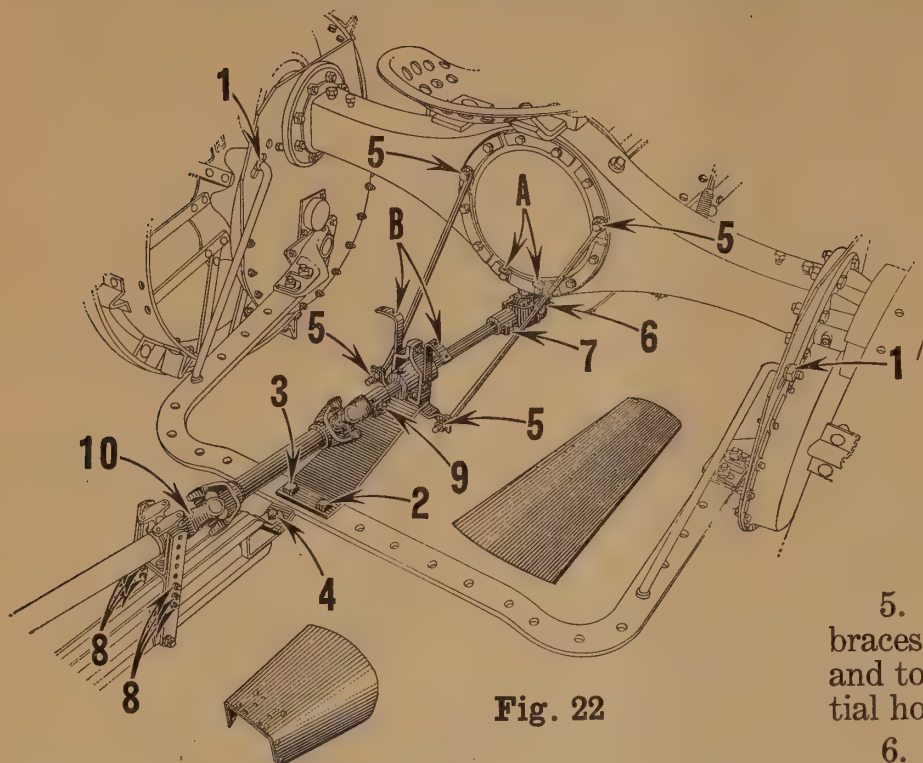
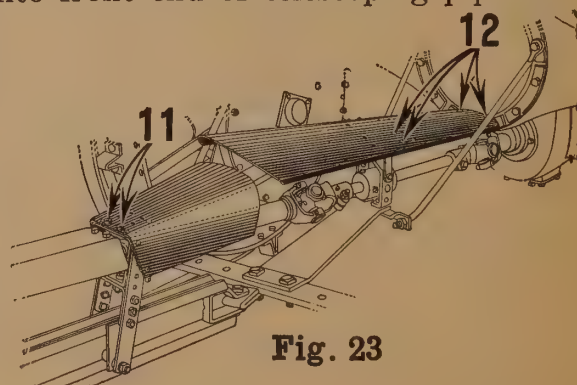
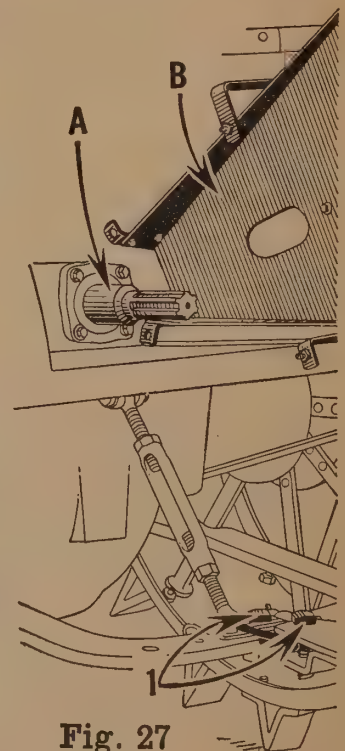

Fig. 22
Fig. 23
Fig. 27
5. Old style shields are supplied for "AR" Model "117" and "AO" Model "121" tractors. Bolt shield to power shaft front support as shown at "11", Fig. 23.
4. Old style shields only are supplied for this tractor. Bolt shield to power shaft front support as shown at "11", Fig. 23.
1. (Fig. 22.) Set drawbar braces in slotted holes in tractor main wheel drive housing as shown.
2. (Fig. 22.) Bolt take-off shaft extension bearing support bracket to the tractor drawbar with one bolt as shown.
3. (Fig. 22.) Bolt pull plate to underside of drawbar at same time securing L. H. side of bearing bracket to drawbar.
4. (Fig. 22.) Connect Binder to pull plate.
5. (Fig. 22.) Attach round braces to bracket on bearing support and to cap screws in tractor differential housing.
6. (Fig. 22.) Slide splined universal joint onto take-off shaft and secure in place with clamp bolt.
7. (Fig. 22.) Slide front end of extension shaft into rear half of universal joint just attached to take-off shaft. Secure with clamp bolt.
8. (Fig. 22.) Adjust height of power shaft front bearing to level power line as shown.
9. (Fig. 22.) Slide front universal joint on pipe connection onto rear end of extension shaft and secure in place with clamp bolt and cotter.
10. (Fig. 22.) Remove tape around key in front end of telescoping pipe for power drive. Remove cap screw, lugged lock washer and notched retaining washer from front end of telescoping pipe. Slide rear universal joint onto front end of telescoping pipe and replace notched retaining washer, lugged lock washer and cap screw. Be sure to fit bent lug on lock washer into notch in retaining washer and to bend remaining lugs on lock washer over head of cap screw.
11. (Fig. 23.) Bolt power shaft shield to rear set of holes in power shaft front bearing housing.
12. (Fig. 23.) Secure extension shaft shield front support clips "A", Fig. 22, to differential housing with cap screws as shown. Set shield into place and bolt to brackets at "A" and "B", Fig. 22.
1. (Fig. 27.) Bolt drawbar plate to top of tractor drawbar and connect Binder to drawbar as shown.
2. Screw splined take-off shaft adapter "A", Fig. 27, onto threaded take-off shaft on tractor.
4. Bolt shield "B", Fig. 27, to tractor platform and bolt old style shield to power shaft front support as shown at "11", Fig. 23.
Old style shield bolts to power shaft front bearings as shown at "11", Fig. 23. Be sure that front half of power line is properly shielded with shield supplied with tractor or with homemade shields.